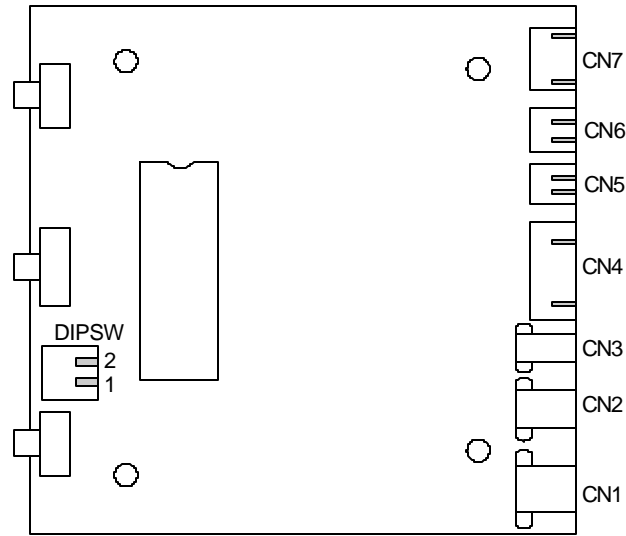

Figure 11
1. Check the maximum specified stroke rate of the pump to be used, and set the dip switches on the controller printed board appropriately (see Tables 1 and 2 and Figure 11).